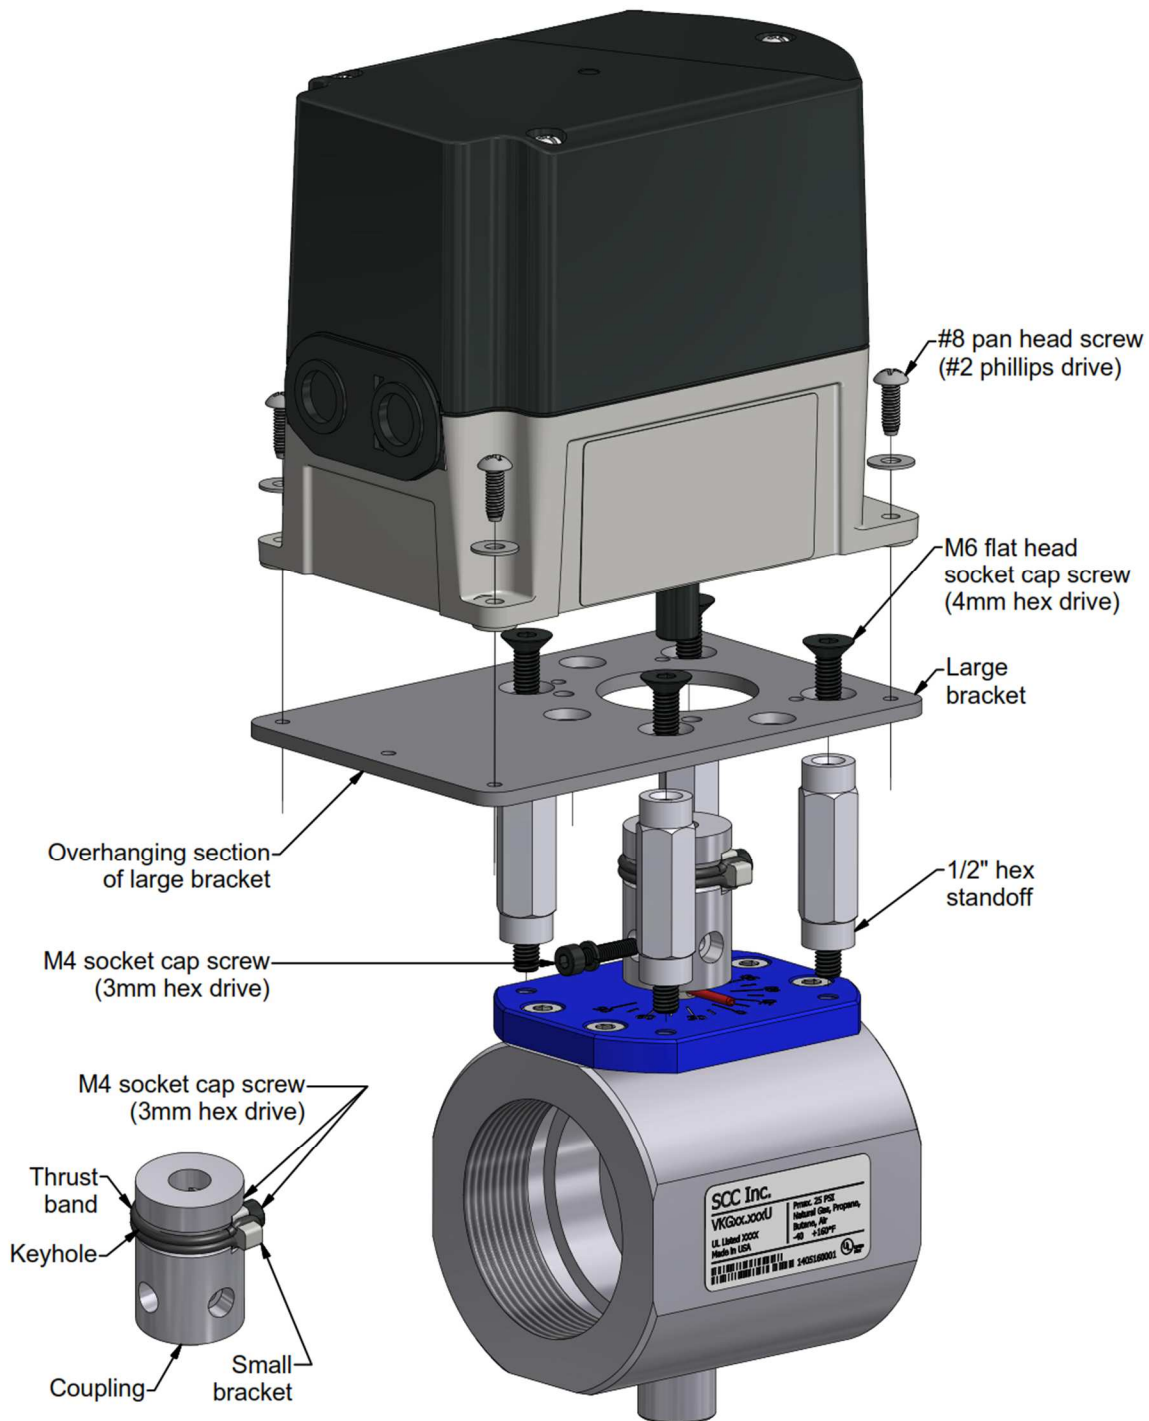

Figure 1: Exploded View of VA45.2-NF-200
- Check illustrations below. If your valve uses a switch mounting bracket as in Fig. 1 & 2, mount switches to bracket using the mounting holes appropriate for valve type and size. For high capacity valves, mount switches on the support stand.
In some cases, the actuator may need to be removed from the valve temporarily during piping. Additionally, the actuator and bracket can be rotated relative to the valve for wiring purposes. The instructions below and the exploded views in Figures 1 and 2 are a guide to proper disassembly and reassembly of a VA... valve actuator assembly with a VKG... butterfly valve.
7. **If the (4) 1/2" hex standoffs were removed in step 6**, thread them back into the threaded holes on top of the valve and tighten with a crescent wrench. **If the coupling was removed in step 6**, slide the coupling back over the valve shaft. Insert the M4 socket cap screw and lock washer through the coupling and valve shaft so that the coupling is in the desired position of the (4) clockable positions. The valve should still be at the closed / 0° position.
8. Fasten the large bracket back onto the standoffs with the (4) M6 flat head socket cap screws (4mm hex drive) so that the overhanging section of the large bracket is on the opposite side of the coupling as the small bracket.
9. Insert a small flat head screwdriver into the keyhole (see Figure 1) between the thrust band, and with the other hand, grab the actuator and push it into the coupling until the actuator shaft clears the small bracket. Remove the screwdriver from the keyhole.
11. Fasten the actuator to the large bracket with the (4) #8 pan head screws (#2 phillips drive) and associated washers. Then, tighten the (2) M4 socket cap screws (3mm hex drive) to secure the small bracket to the flat of the D-shaft.